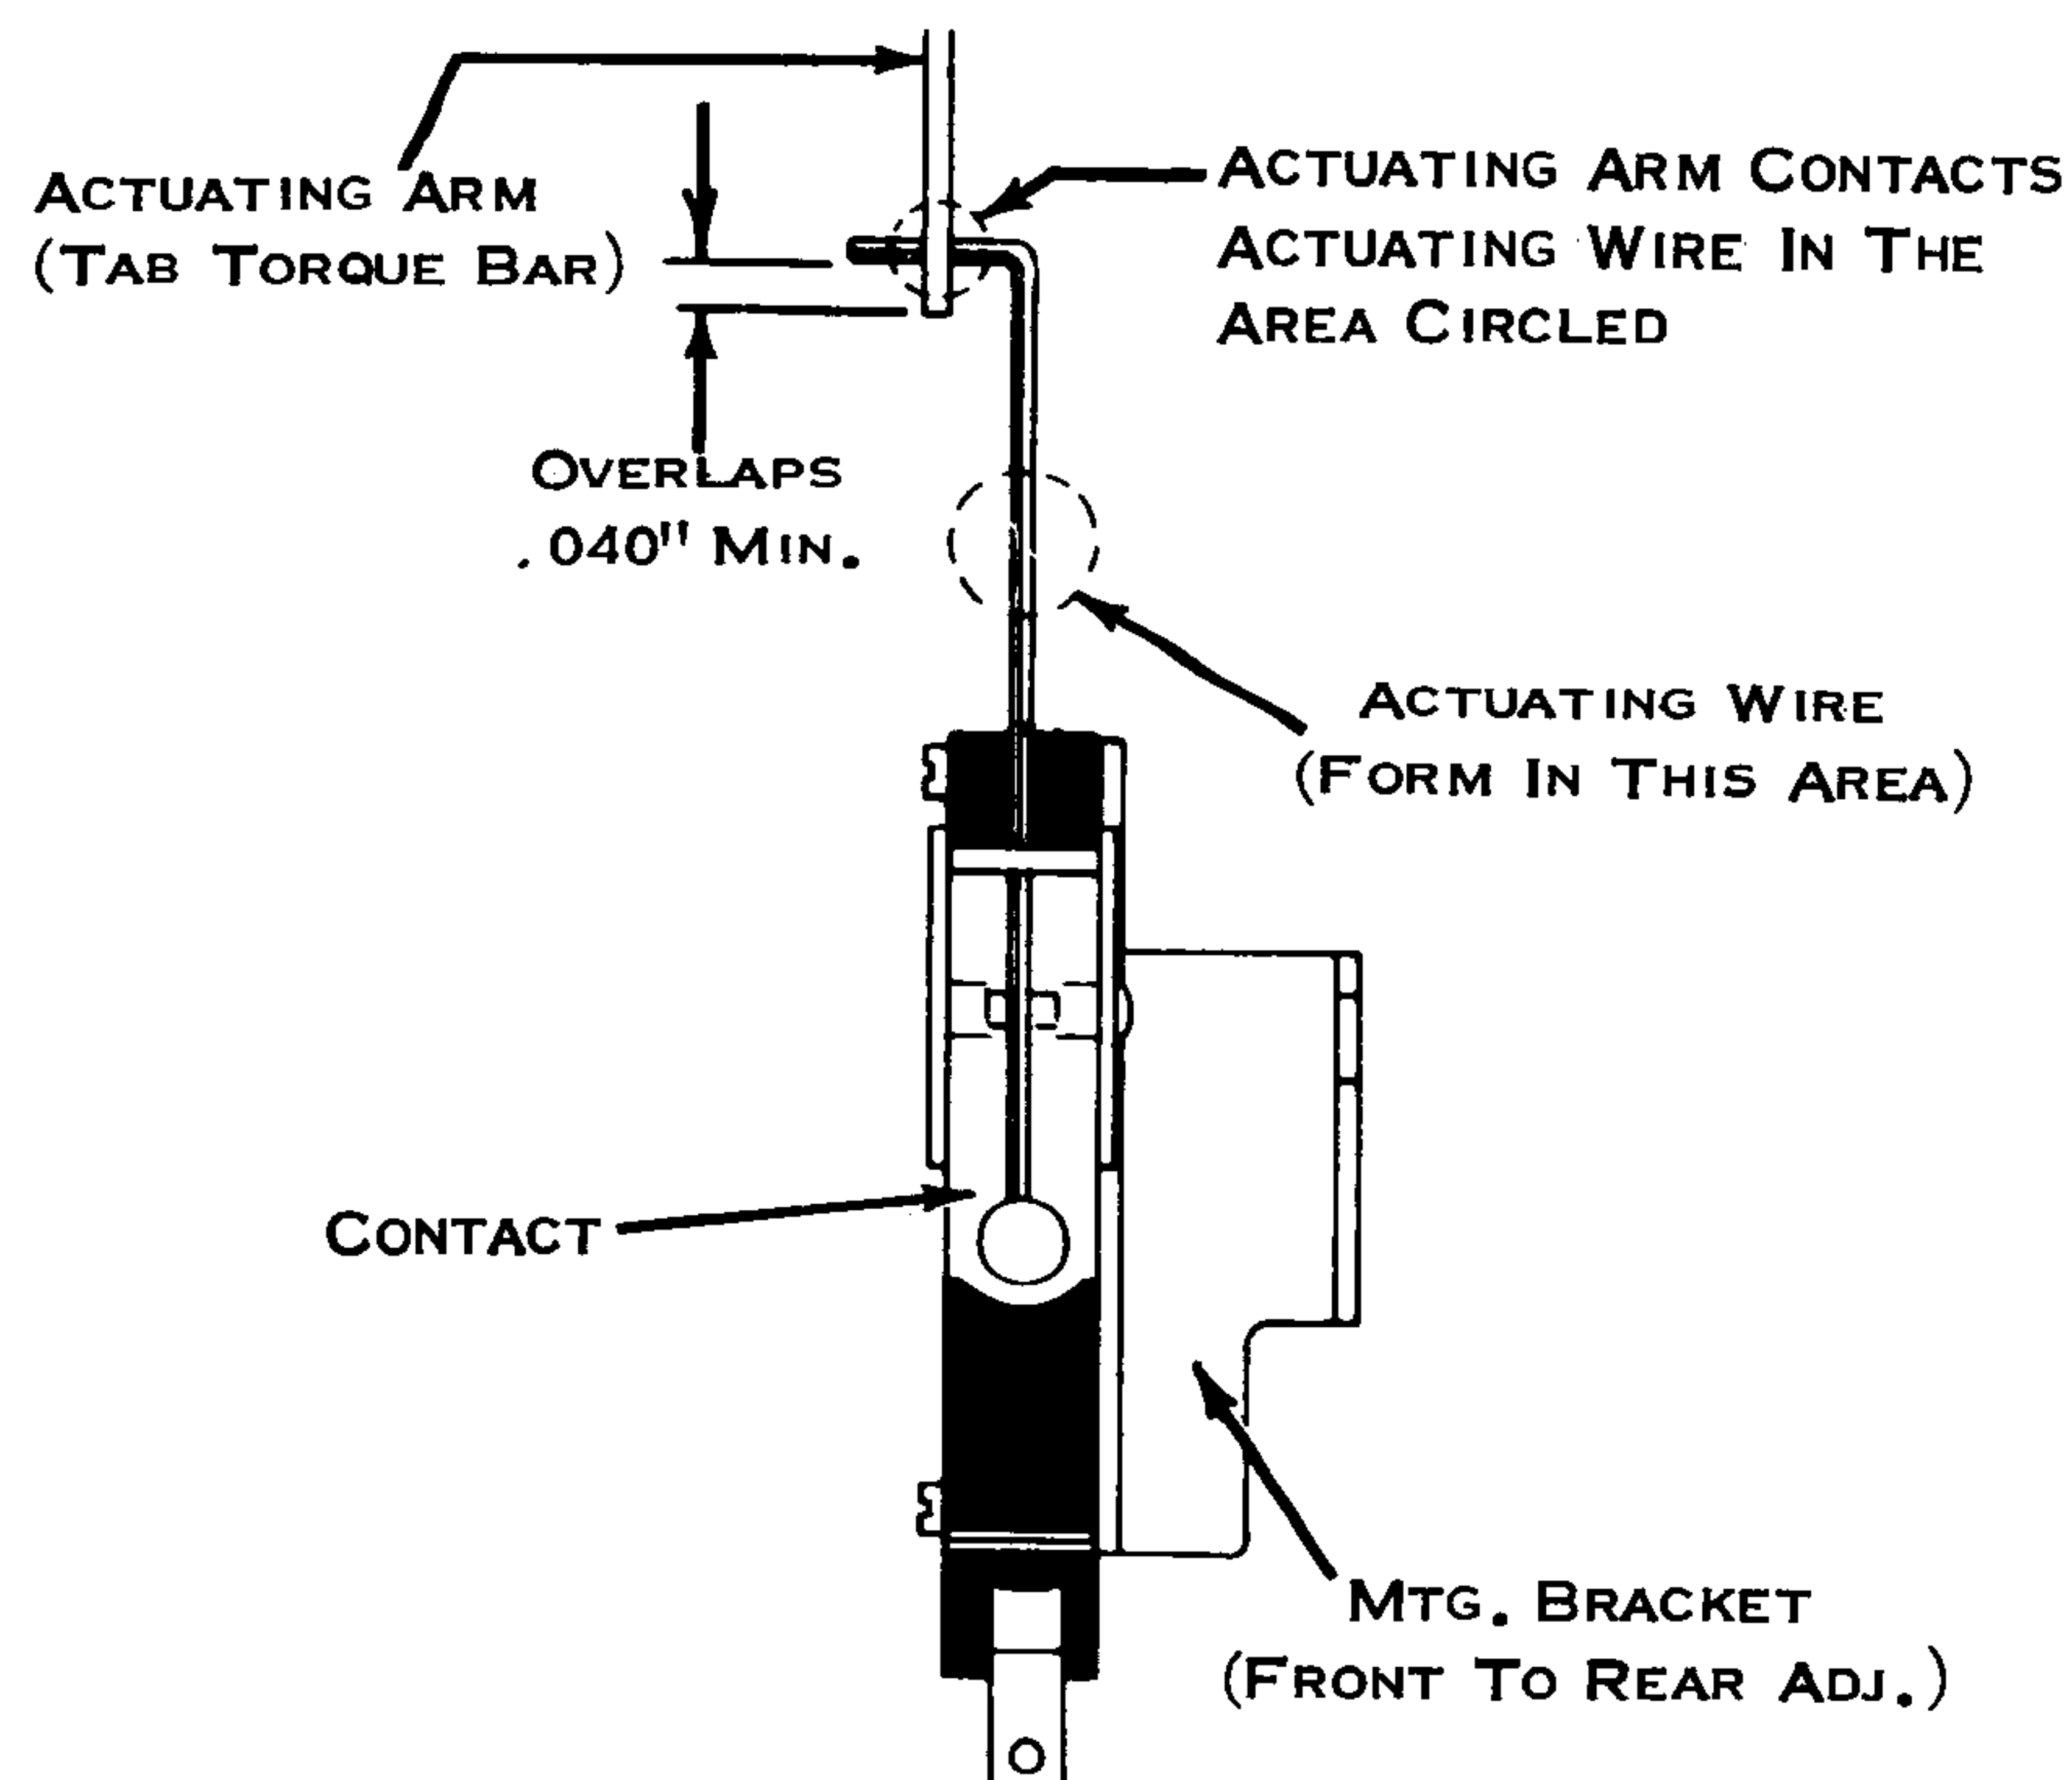

Figure 175. Interlock Contact
- a. Form (in circled area) the actuating wire (left or right) so that it contacts the actuating arm near the right angle bend (Fig. 175).
- b. With the tab interposer released and the backspace cam on its high point, position the mounting bracket (front to rear) so that the actuating arm overlaps (.040" minimum) the actuating wire (Fig. 175).